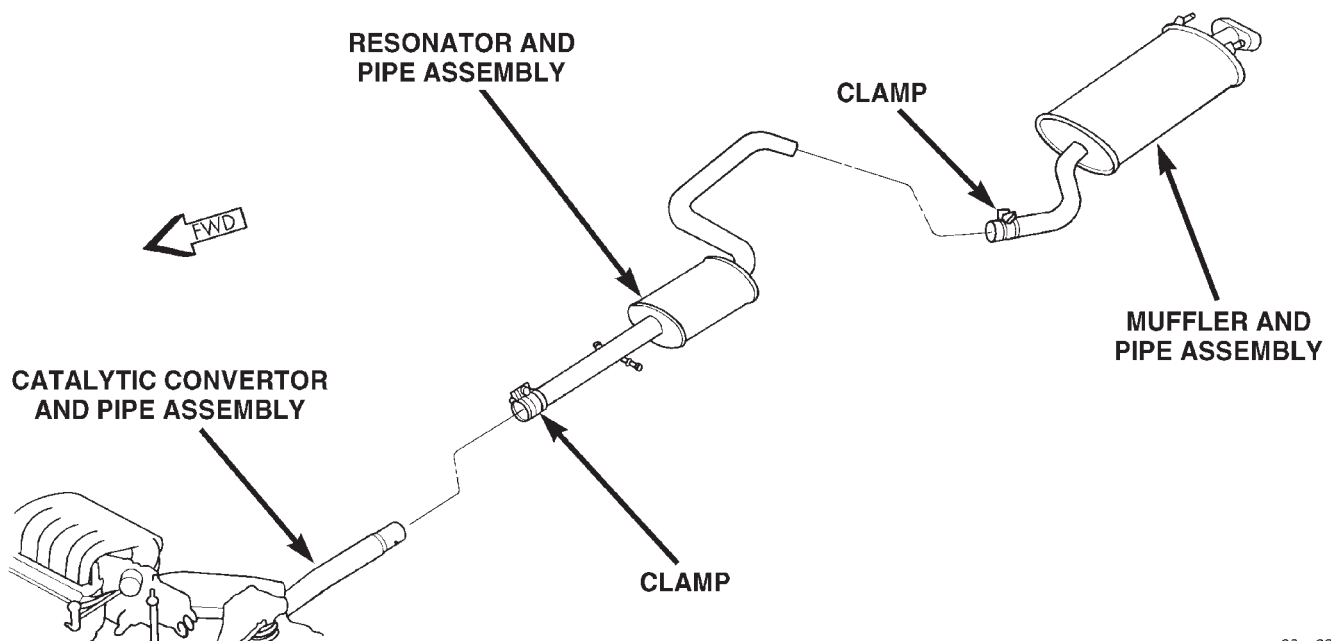

Fig. 5 Exhaust System Components
(1) Raise vehicle on hoist and apply penetrating oil to clamp nuts of component being removed (Fig. 5).
(2) Loosen clamp at muffler to resonator/pipe assembly (Fig. 5).
(5) Remove muffler assembly from resonator pipe.
(6) Remove clamp and supports at the resonator pipe to catalytic converter slip joint (Fig. 5). Separate at slip joint and remove the resonator assembly.